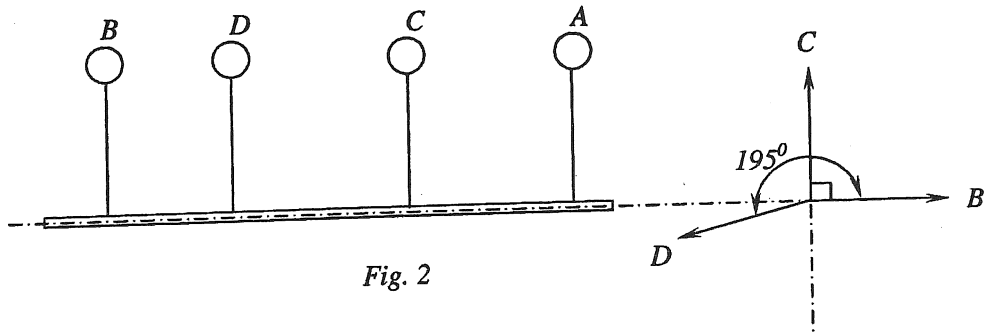

Fig. 2
- 5 Four masses A, B, C and D are completely balanced as shown in Figure 2. Masses C and D make angles of 90° and 195° respectively with that of mass B in the counterclockwise direction. The rotating masses have the following properties: